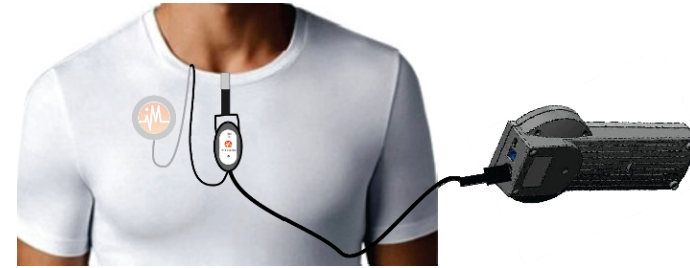

Figure 5
2. Orient the antenna so that the ImThera logo is visible as shown in Figure 5, and place the antenna directly on your skin over your implant. The antenna and the implant each have a magnet which is designed to align the antenna with the implant and hold the antenna in place.